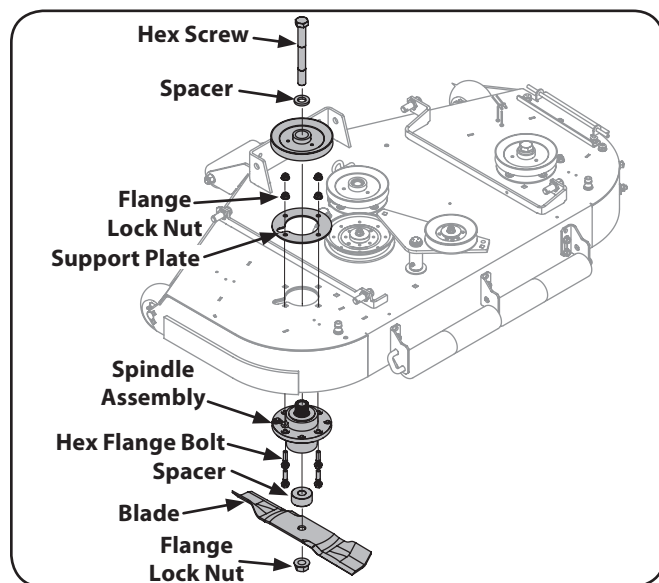

Figure 7-11
6. Using a $\frac{1}{16}$ wrench or socket ratchet remove the flange lock nuts, and the hex flange bolts. Remove the spindle assembly. See Fig. 7-11.